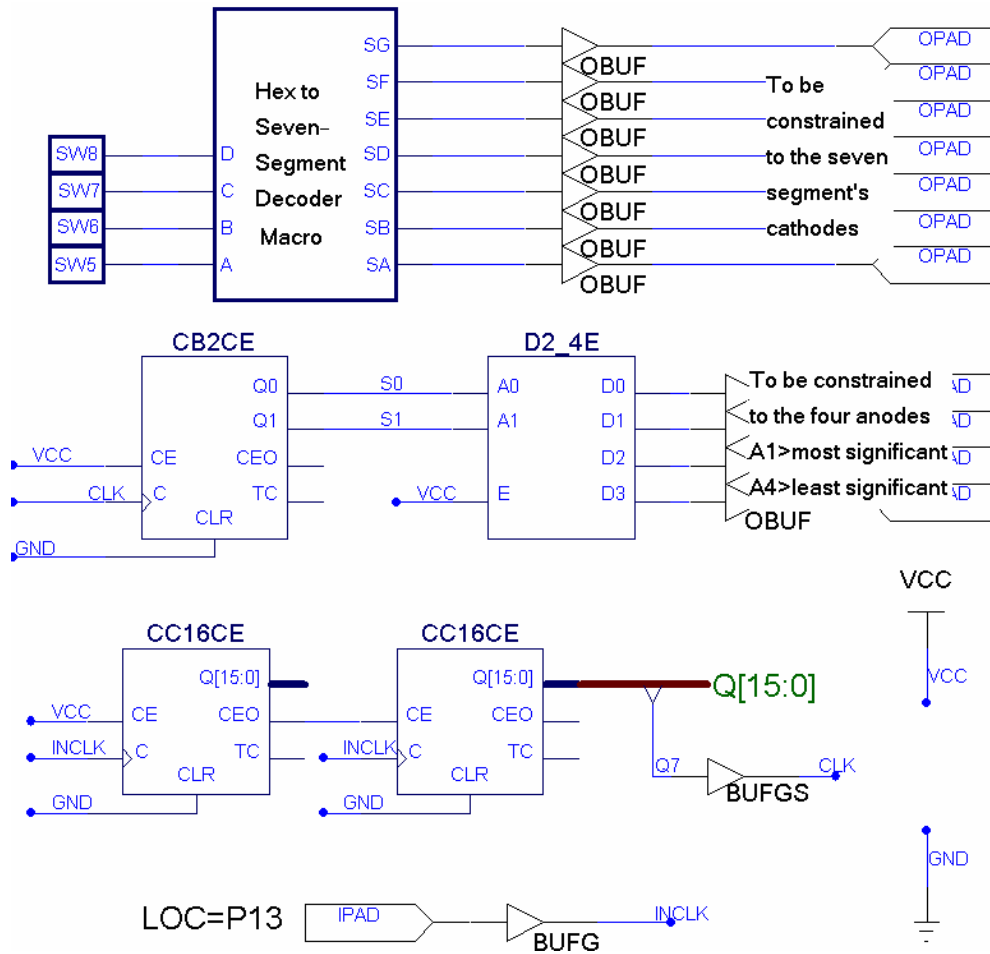

Figure 6.4: Time Multiplexing the Same Digit on Four 7-Sement Displays
8. Connect the four anodes to a two-to-four decoder (D2-4E) as shown in Figure 6.4.
9. Connect the two inputs of the decoder to a two-bit counter (CB2CE) as shown in Figure 6.4.